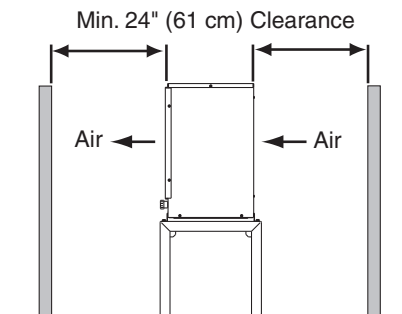

Fig. 9
- A dry and well ventilated area with 24" (61 cm) clearance in both front and rear for ease of maintenance and/or service should they be required. See Fig. 9.